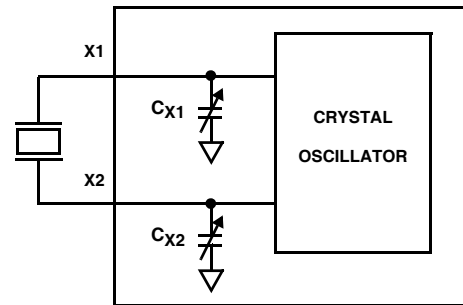

FIGURE 11. DIAGRAM OF ATR
12.5pF (default). C_{LOAD} is changed via two digitally controlled capacitors, C_{X1} and C_{X2} , connected from the X1 and X2 pins to ground (see Figure 11). The value of C_{X1} and C_{X2} is given by the following formula: